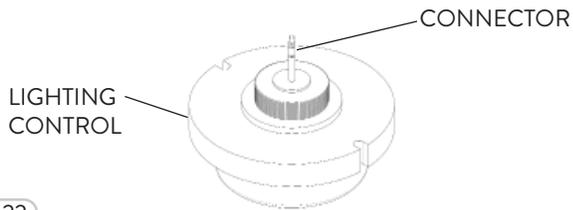

FIG. 22
- 2 The Lighting Control Sensor has a 'Plug and Play' Connector that inserts into the bottom of the FLHQ fixture (Fig. 22).